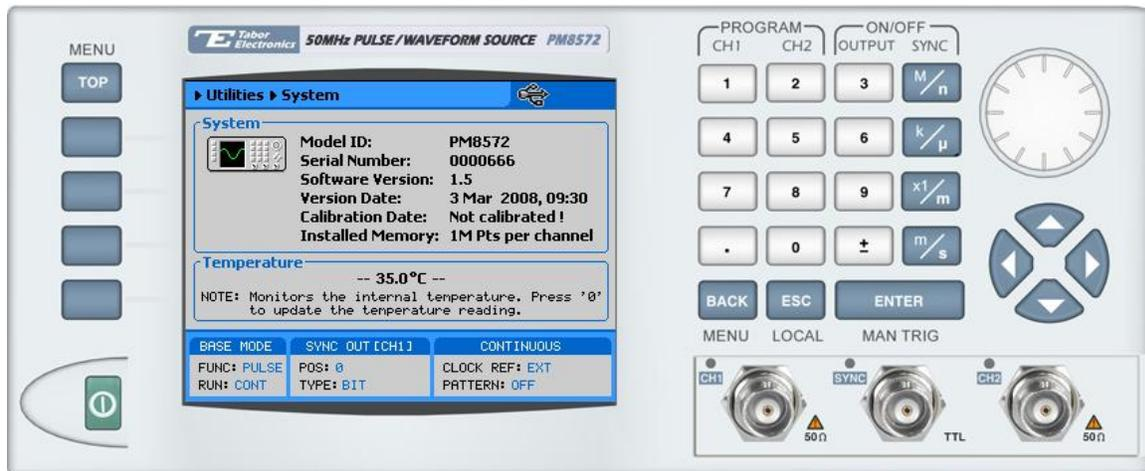

Figure 7-5, Software Version Screen
4. Turn power **ON** on your PM8572A and observe that the progress bar, as shown in Figure 7-5, is advancing from left to right. Do not do anything on the PM8572A until the progress bar completes its travel to the right end.